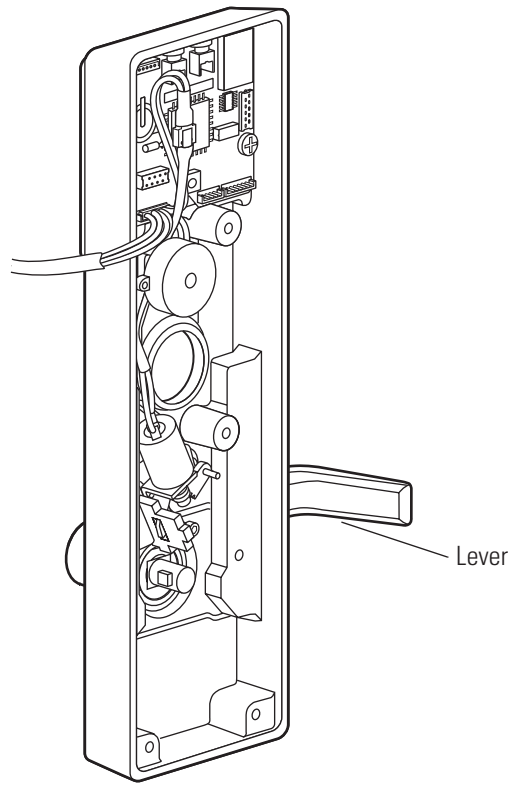

Figure 10.15 Removing and reinstalling the lever assembly (B.A.S.I.S. escutcheon shown)
2. Remove the lever from the front of the escutcheon. See Figure 10.15.
2. Insert the lever through the escutcheon, positioning the lever so its handle will point toward the door hinges. See Figure 10.15.